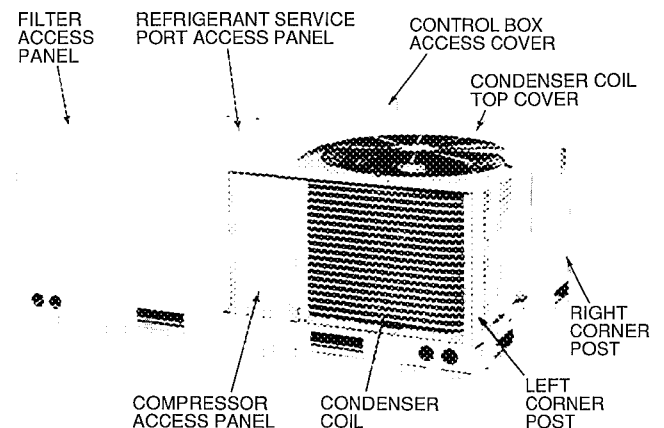

Fig. 29 – Cleaning Condenser Coil
Refrigerant Service Ports — To service refrigerant service ports, remove refrigerant service port access panel. See Fig. 29. Each unit system has 4 Schrader-type service gage ports: one on the suction line, one on the liquid line, and two on the compressor discharge line. Be sure that caps on the ports are tight. When a controls upgrade package is used, one Schrader-type valve is located under both the high-pressure switch and the low-pressure switch.
1. To access 2-row coils, remove screws securing condenser-fan grille to condenser coil top cover. Place grille on top of condenser fan top cover as shown in Fig. 29 and 30. It is not necessary to remove the top cover.